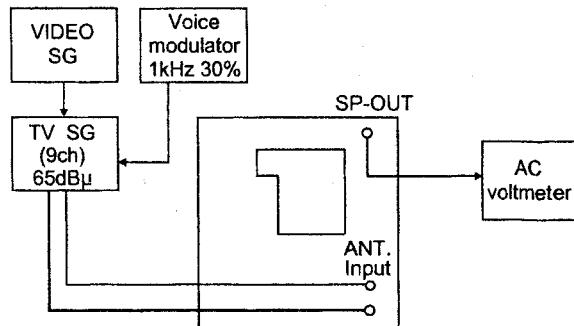

Fig.9
- Connect the measuring equipment as shown in Fig.9.